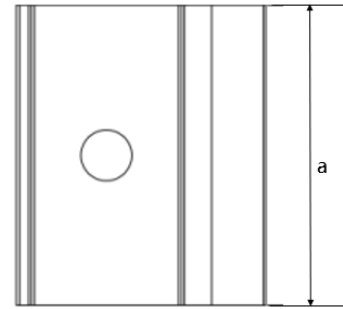
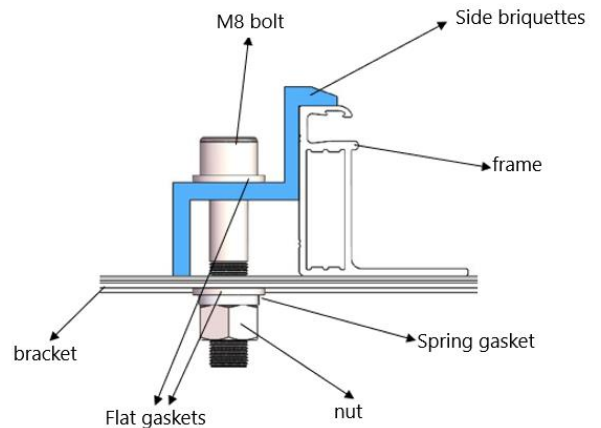

Figure 14 Top view of fringe clamp
Figure 16 Installation schematic diagram of fringe clamp
- ① Place the module on the two supporting rails (not provided by Astronergy) which should be made with stainless material and treated with an anti-corrosion process (e.g. hot dipped galvanizing). Each PV module needs at least four clamps to be fixed. The module clamps should not come into contact with the glass and should not deform the frame, otherwise they may cause module damage.
- ② Be sure to avoid shadowing effects from the module clamps. Weep holes on the module frame must not be closed or obscured by the clamps. The clamp must have at least 8mm but no more than 11mm overlap with the frame of the module (The clamp section can be changed under the premise of ensuring reliable installation).
- ③ The top surface of the rail contacted with module frame should be equipped with grooves compatible with an M8 bolt.
- ④ If the grooves are not provided, holes of a suitable diameter may need to be drilled to allow bolts attaching to the rail at the same locations as mentioned above.
- ⑤ Ensure that the mounting sequence of each clamp is in the order of flat washer, spring washer and nut.
- ⑥ Figures 14 and 15 show the schematic diagram of the clamp, while Figures 16 and 17 show the installation schematic diagram of the clamp. The dimensions of the clamp are $a \geq 40$ mm, $b \geq 16$ mm, $c \geq 5$ mm, $d \geq 8$ mm, $e \geq 15$ mm, $\varnothing = 9$ mm, and the thickness of the clamp is ≥ 3 mm. For module of 182/210mm-wafer, the size of mid and fringe clamp must meet $a \geq 60$ mm. The tightening torque is suggested to be 17~23Nm for Class 8.8